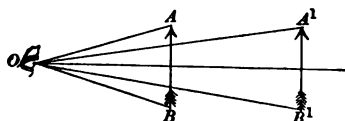

FIG. 434. — The visual angle.
**456. Apparent distance and size.** The apparent size of an object depends on the size of the image formed on the retina, and consequently on the **visual angle**. From figure 434 it is evident that this angle increases as the object is brought nearer the eye.